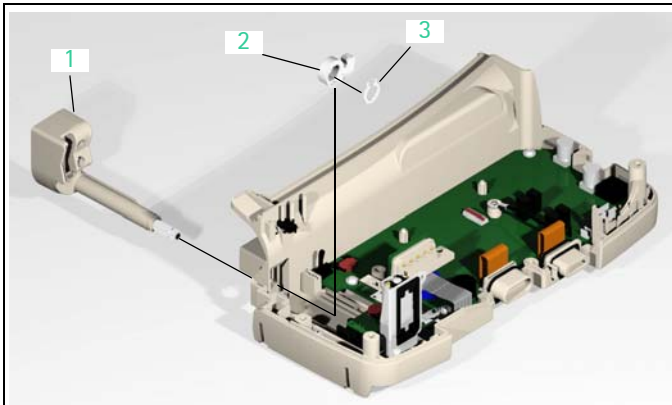

Fig.: 3 - 41
- 15. Take the lock (Fig.: 3 - 40 / Item 3) out of the bearing housing.
Legend of fig. 3 - 41: